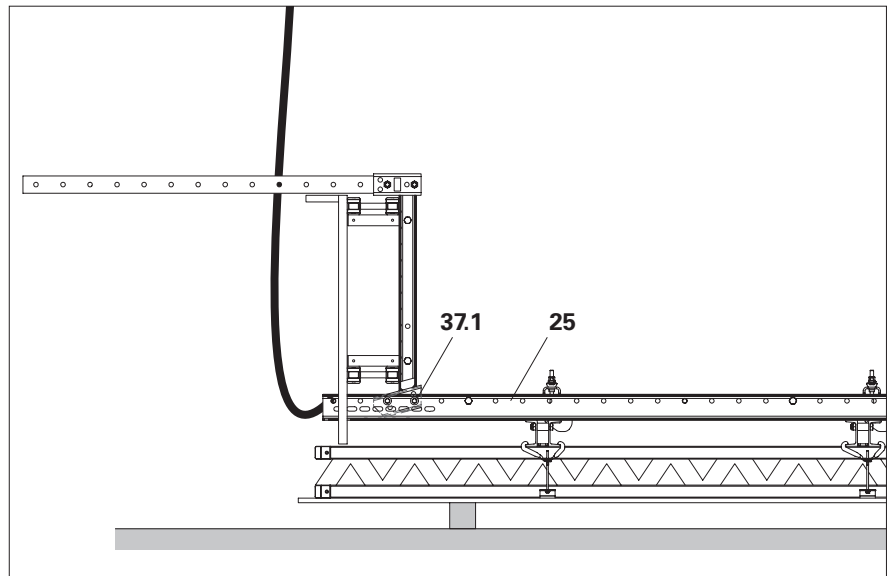

Fig. C1.11
6. Mount the pre-assembled platform on the strongback (25) with the 2x filler pins $\varnothing 21 \times 120$ (37.1), washer and cotter pin 5/1 supplied.
7. Attach the strongback to the crane and rotate the formwork. (Fig. C1.11)